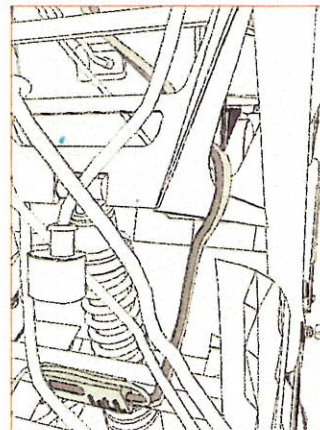

Figure 19
11. Feed the TFI harness through the opening in the body as shown. (Figure 19)